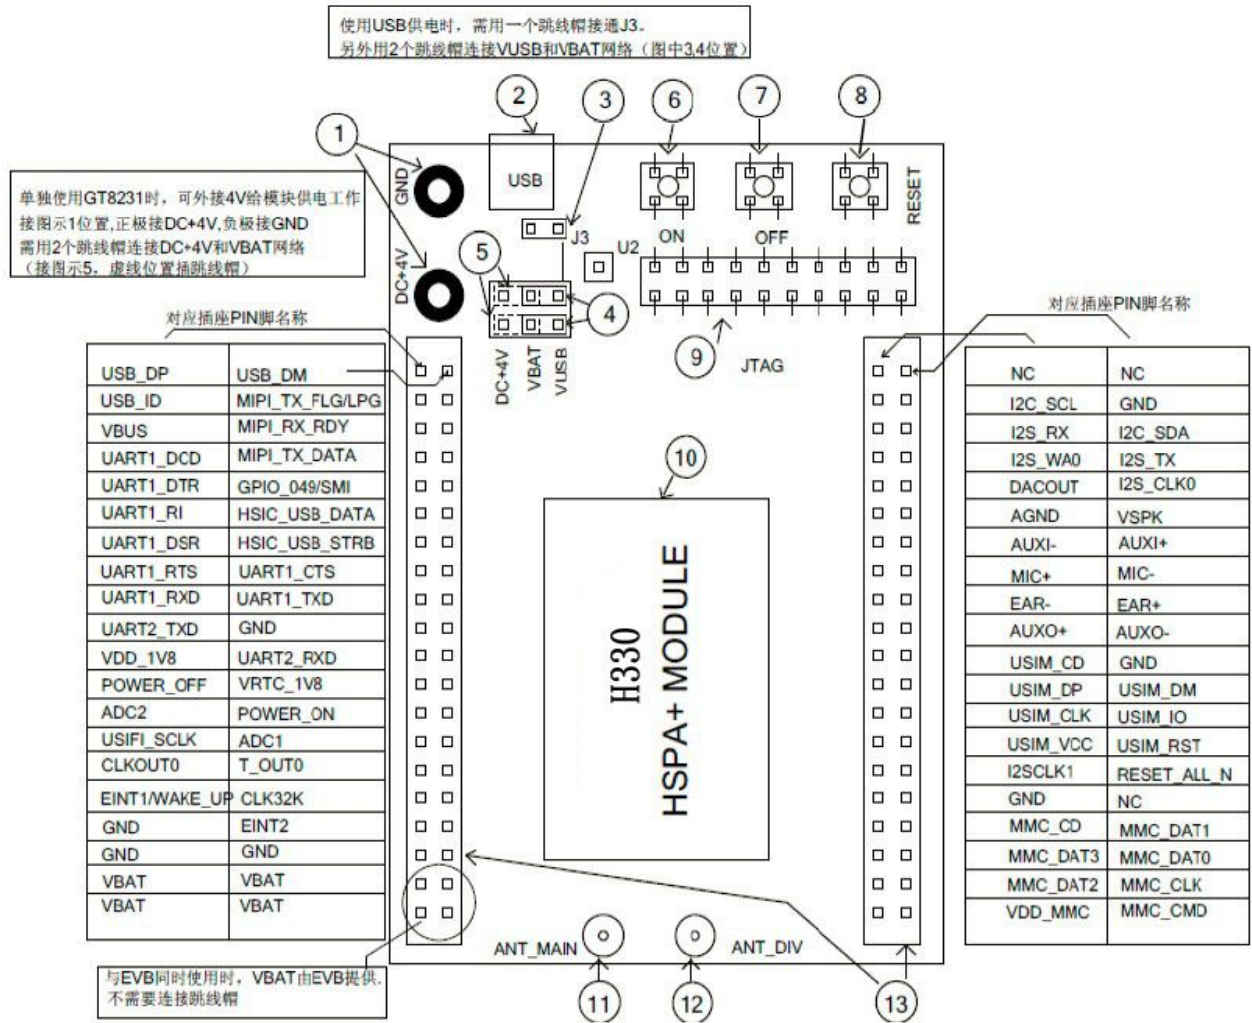

Figure 3-3 ADP-H330
1. Use external DC+4V power first, jumpers connect to 5 pin (as shown in Figure3-3), press Power ON.